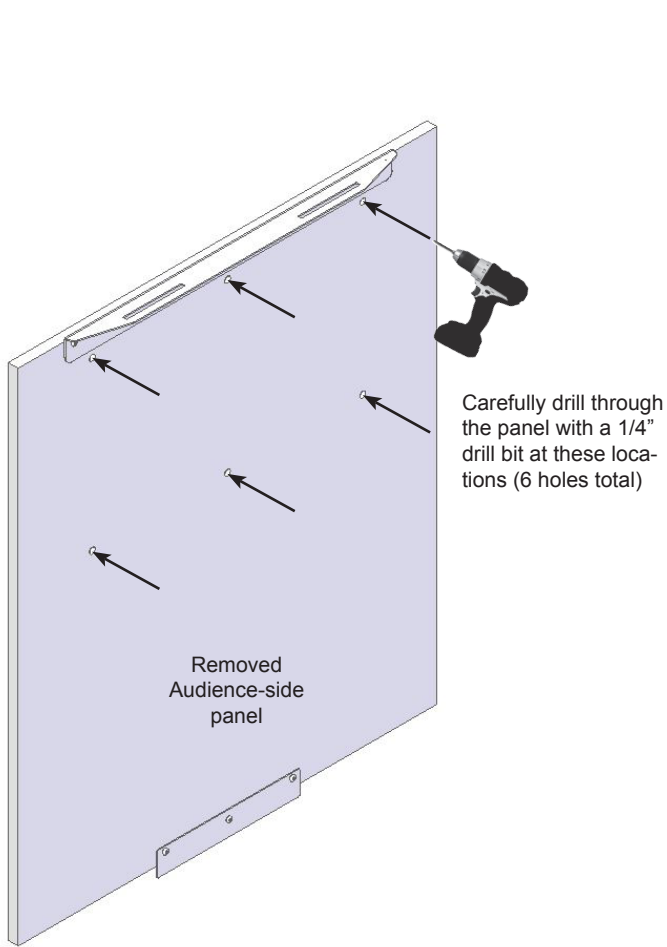

Figure 1C
4. Locate the (6) starter holes in the back of the audience-side panel. **Figure 1C.**